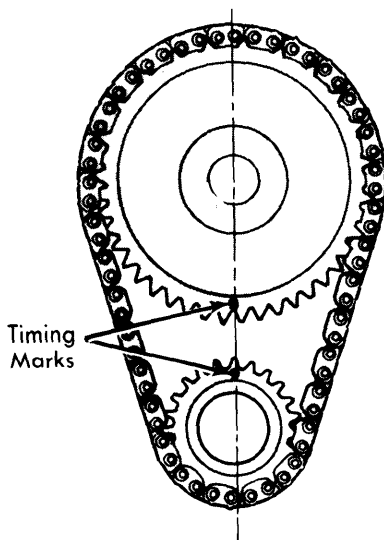

Fig.12 Timing Chain Sprocket Alignment
Removal & Installation — 1) Crank engine until timing marks are positioned properly (see fig. 12). Remove camshaft sprocket cap screw, washers and fuel pump eccentric. Slide both sprockets and timing chain forward and remove them as an assembly.
2) To install, position timing chain on sprockets with timing marks aligned (see fig. 12). Slide sprockets and timing chain onto engine as an assembly. Install fuel pump eccentric, washers and sprocket cap screw. Tighten bolt and oil timing chain.